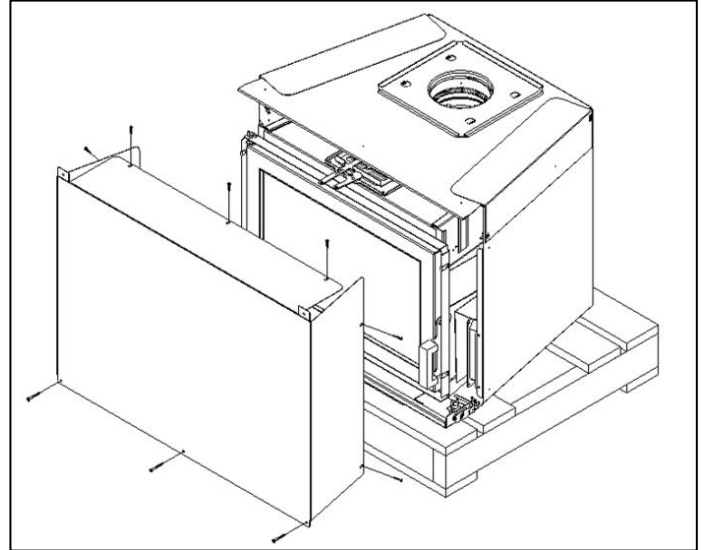

Figure 13: Shipping Front Cover Removal
- Unfasten and remove the front shipping cover of the unit (Figure 13).